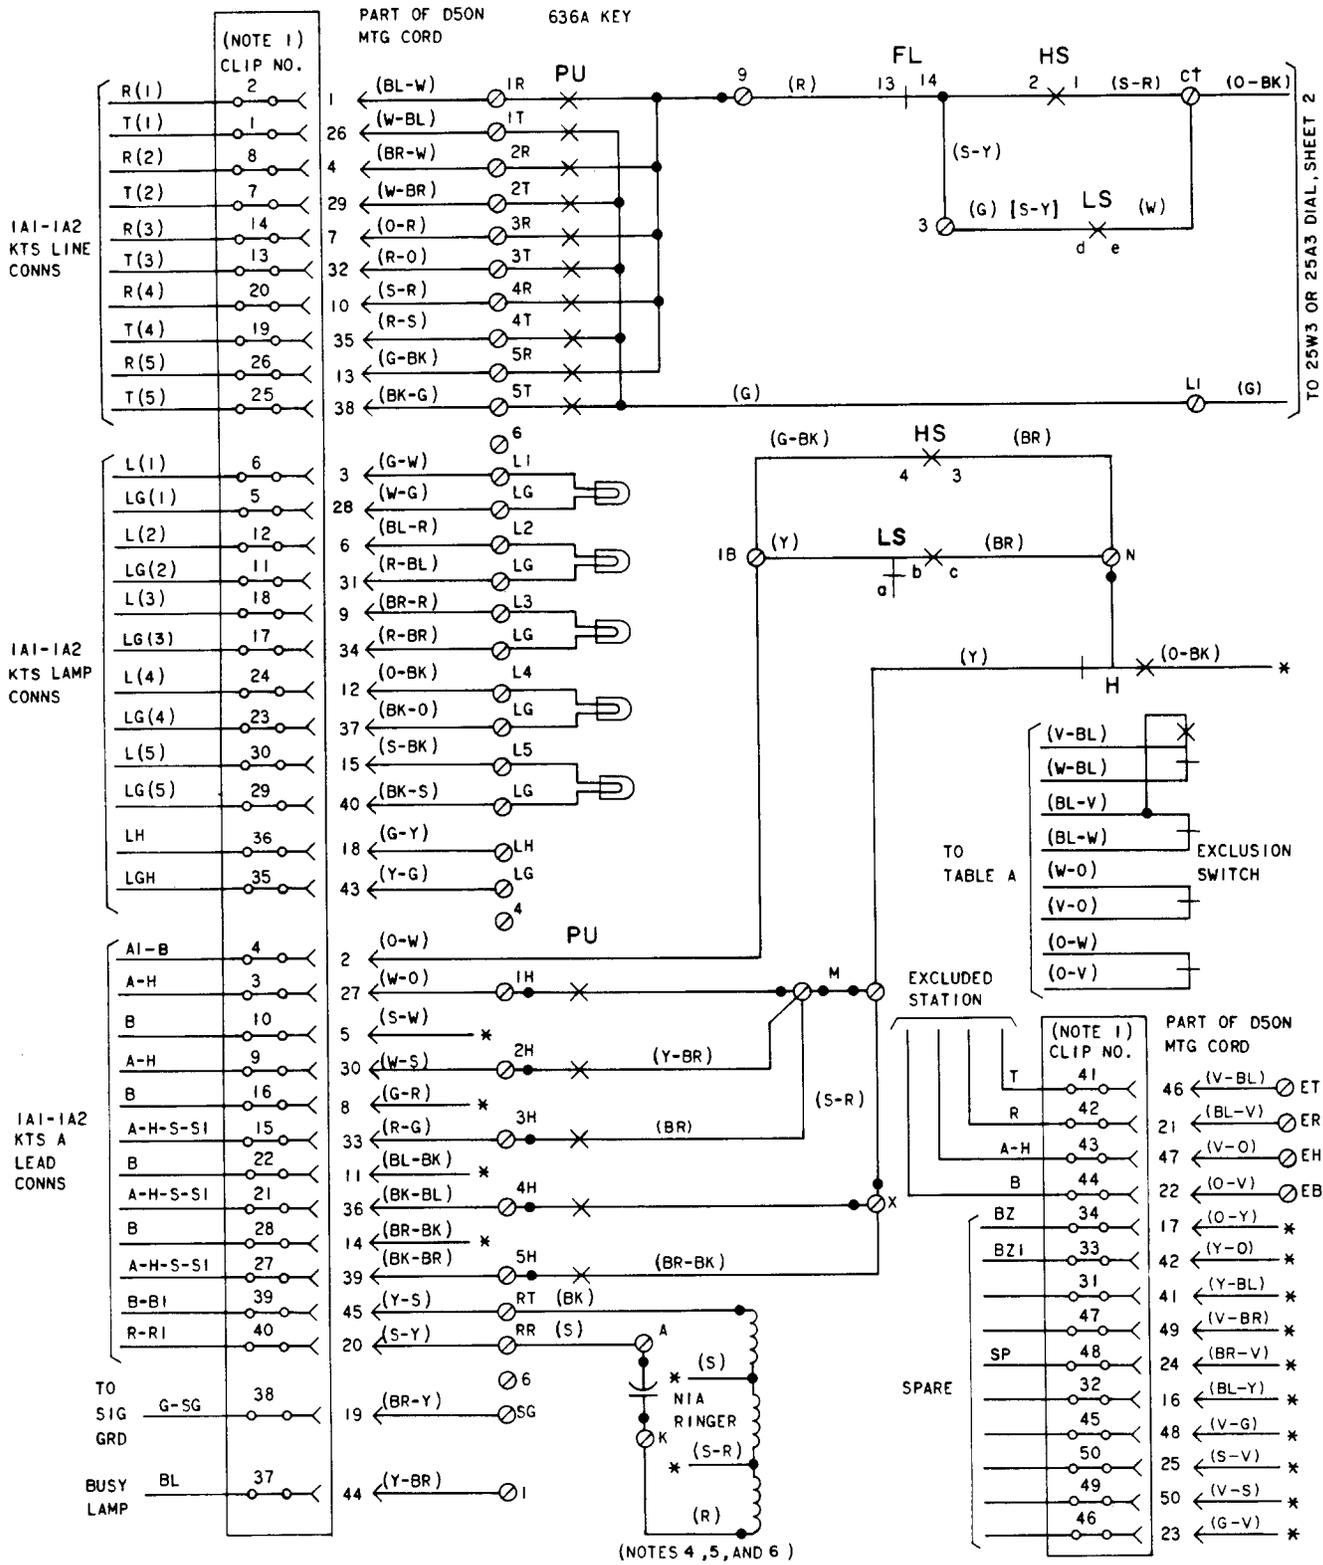

Fig. 1—1563HB (MD) Telephone Set, Connections (Sheet 1 of 3)
- 3.05** The set ringer may be connected as a bridged ringer on any line if desired (Note 4, Fig. 1).